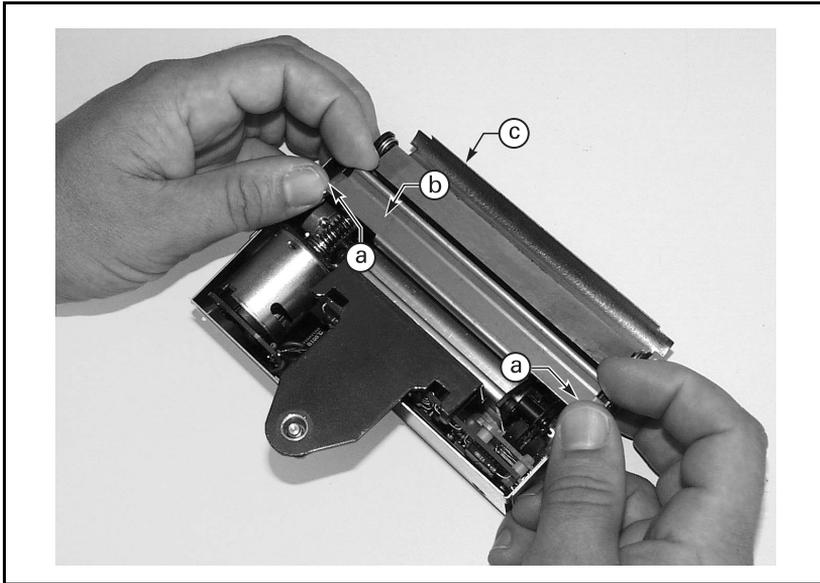

Figure 20. Cutter Module Disassembly
1. See Figure 20. Hold the cutter module as illustrated. Put your thumbs on the two wire spring loops (a) and your index fingers on the top of the rear cutter blade guard (b). It may help to lay the cutter module on a table or other surface throughout this process.
5. To provide complete access to the area to be cleaned, raise the upper cutter blade guard (c) as shown in Figure 20.